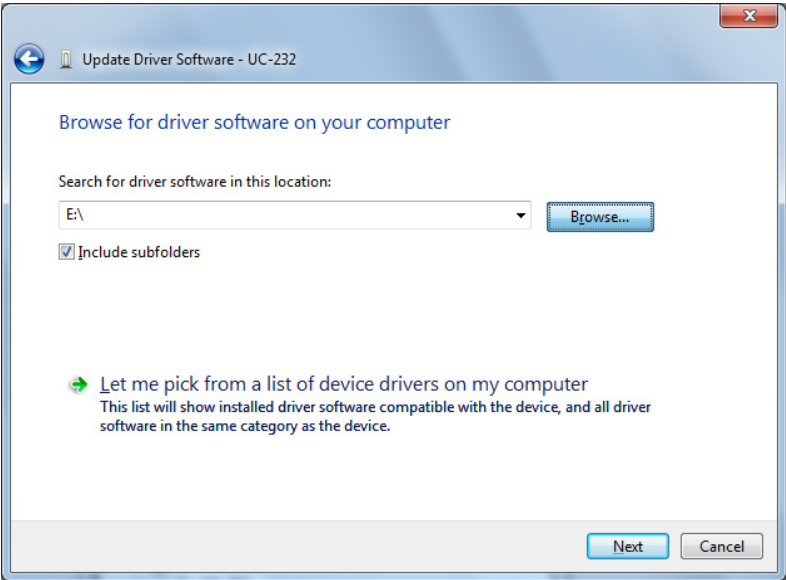

Fig. 13. Update Driver Software Procedure.
- 5) In the address box put the exact location where the drivers have been saved to, or select “Browse” for choosing the location (see Figure 13). This may be on a CD or in a folder on the PC. It is not necessarily the exact same location as shown in the screenshot. After entering the address select “Next” to start the installation.